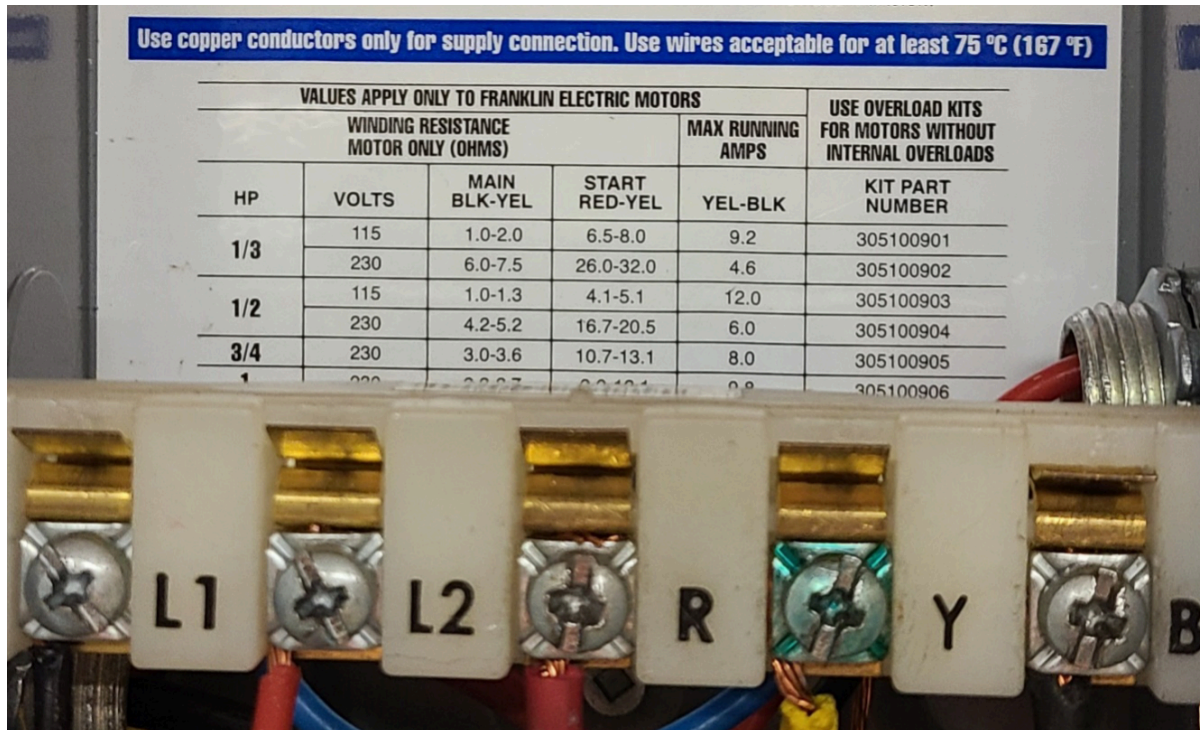

Figure 73. Control box connections and label
- Compare the reading to the manufacturer's specifications. These values are often supplied on the label located under the control box cover (Figure 73). Notice these reading are for the resistance of the motor only. The resistance values for different drop cable are readily available and will need to be added to the motor winding values to compare to the actual
- Figure 73. “Control box connections and label” by Camosun College is licensed under a CC BY-NC-SA licence.